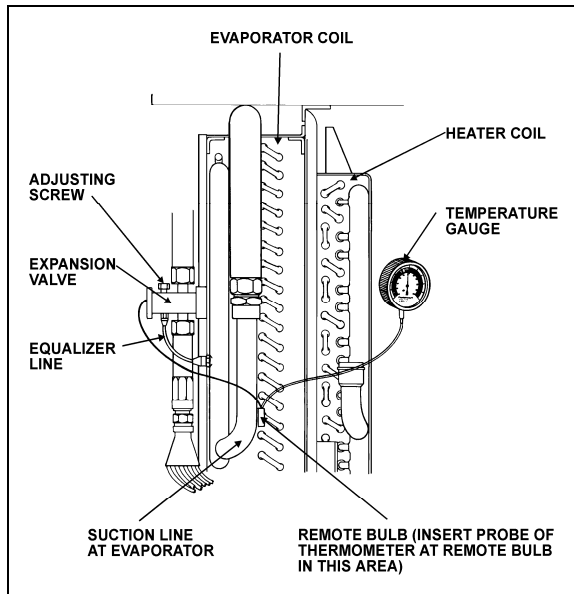

FIGURE 33: SUPERHEAT ADJUSTMENT INSTALLATION22046
The starting method of adjusting the superheat is to unscrew completely the main evaporator expansion valve adjusting screw, then screw in 13 turns clockwise for 134A (Fig. 33). Afterwards, the following procedure should be followed:
3. Install a remote reading thermometer to the evaporator outlet line near the existing remote bulb (Fig. 33).